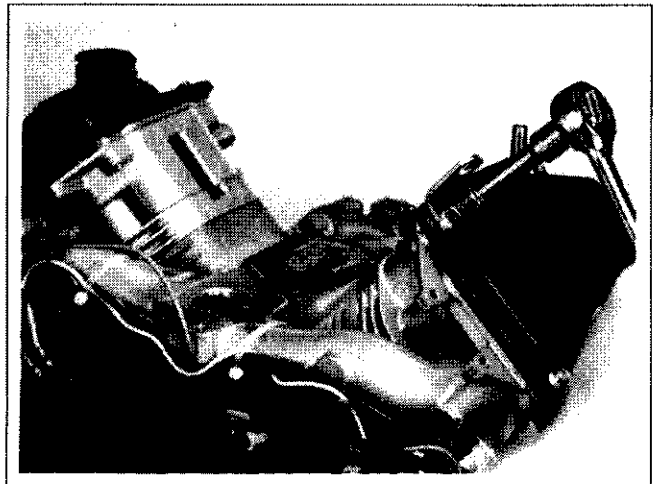

Figure 9-37. Removing Valve Covers.
2. Remove the valve covers, valve cover gaskets or O-Ring (if used) and lifting strap. Note which side of the engine has the oil fill valve cover. See Figure 9-37.